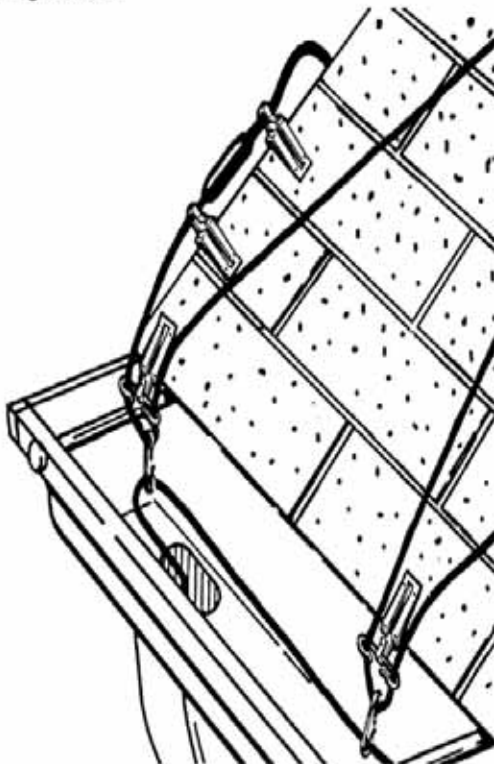

Figure 10. Starting point near roof edge
**Attaching the cable at the starting point.** Near the outlet, first, attach the cable to the edge of the roof near the outlet using the clips as shown in Figure 10 or 11. Do not plug in the cable at this time.